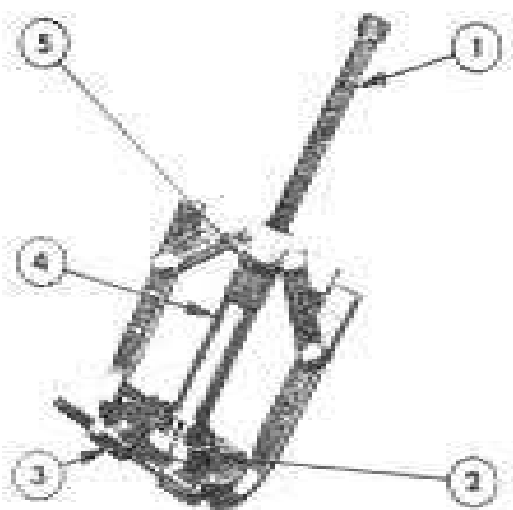

Figure 26
4. Collect the two interlock plungers from the transverse bore. If necessary, the threaded bore plug located on the outside of the case, Figure 26, may be removed to gain access to the plungers.
4. Inspect the gear teeth and the oil seal journals on the P.T.O. input shaft for damage or wear and check the rear bearing for wear or damage, if necessary, remove the snap ring and use Puller, Tool No. EF-0800, Pulling Attachment, Tool No. EF-0501 and a suitable step plate Tool No. EF-0630S to withdraw the rear bearing Figure 26.